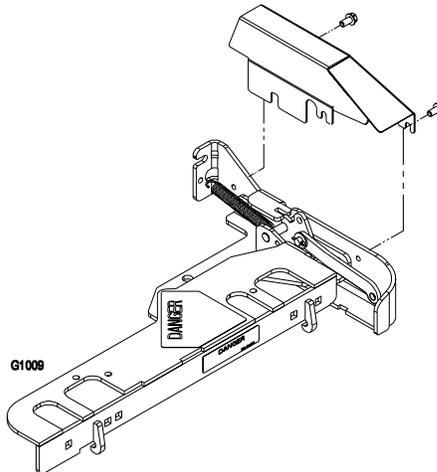

FIGURE 15
- 3.2.16 Install the gate linkage cover to the gate linkage assembly as shown in Figure 15.